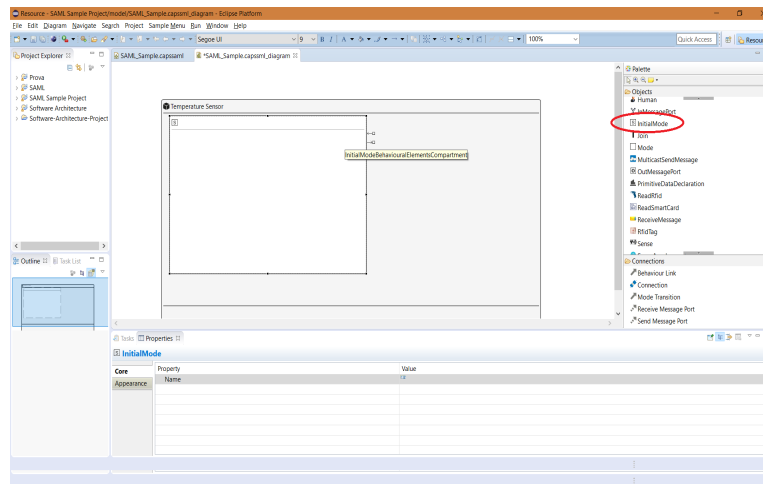

Figure 2.12: Creating the initial mode
- Now you have a simple blank named component. Let's create some logic inside it. **The very first thing you have to do**, is to put inside the component the **Initial mode**. Search it in the **Palette view** e put it inside the component (if you try to create the mode outside the component, well, you will not able to do that) (figure 2.12). What is an **initial mode**: it's the group of logic that is active when **the component starts working**. It will be more clear in a few steps;